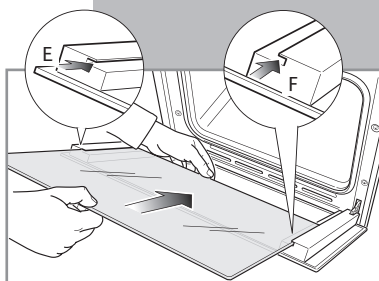

Fig. 27
- Insert the pane in the left **E** and right **F** slide guides (fig. 27), and gently slide it to the retainers **H** (fig. 28).